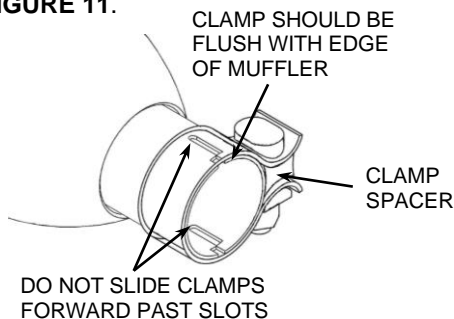

FIGURE 10
26. Adjust the mufflers fore and aft to align the front of the mufflers with the rear of the heatshields. Make sure there is a small gap between the front of the mufflers and the heatshields. Rotate the mufflers so they are level with the ground and then tighten the muffler mounting bolts and the clamps. (NOTE: The clamps should be flush with the end of the muffler inlet when tightened. If the clamps are slid past the slots on the muffler inlet the clamps will not tighten properly). See **FIGURE 10**.